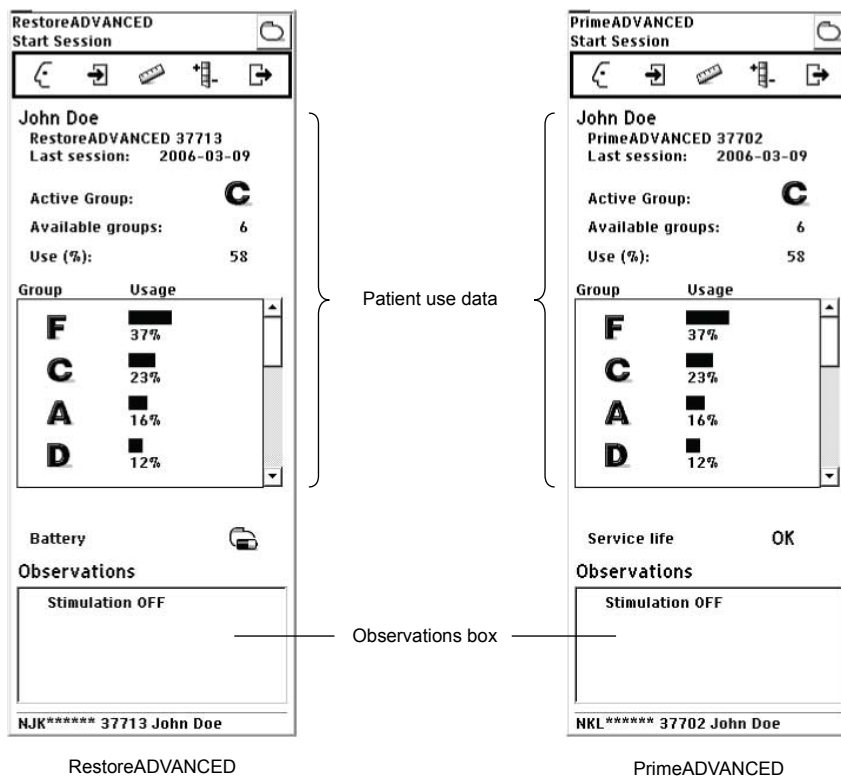

Figure 20. START SESSION screen.
Review patient use information and neurostimulation system information on the START SESSION screen (Figure 20). The neurostimulator collects patient use data between sessions. The collected data can also be viewed by group and by day.
2. View the following patient use data (Figure 20):
2. Review the Observations box for significant system events that have occurred (Figure 20). The observations are brief notifications (eg, Check INS clock, Stimulation off) that need to be investigated (see Table 11 on page 90).